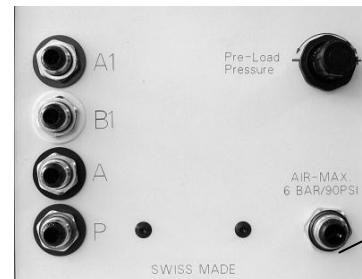
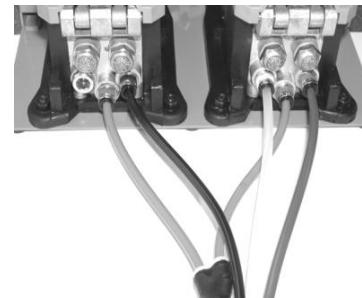

Fig. 8.01
Fig. 8.02
Connect the colour coated, fourfold air hose on the back of the machine (Fig. 8.01) and to the double foot pedal (Fig. 8.02).
Connect **AIR MAX.** (Fig. 8.01, Pos. 1) of the Pneum. Parallel Crimp Machine AT-SC to the main air supply with the included black air hose Ø 8/6 mm.
- The machine can only be depressurized by disconnecting the machine from the main air supply (Fig. 8.01, Pos 1).